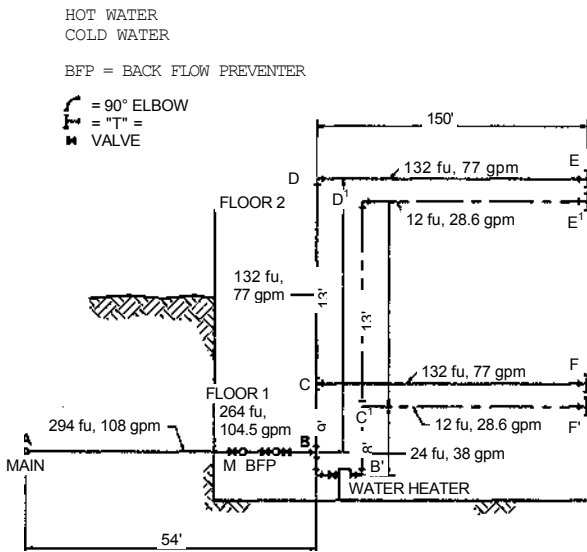

Figure F103
Step 1, Column 1: Divide the system into sections breaking at major changes in elevation or where branches lead to fixture groups. After point B (see figure F103) separate consideration will be given to the hot and cold water piping. Enter the sections to be considered in the service and cold water piping in Column 1 of the Tabular Arrangement. Column 3: According to the method given in F102.2, determine the gpm of flow to be expected in each section of the system. These flows range from 28.6 to 108 gpm.